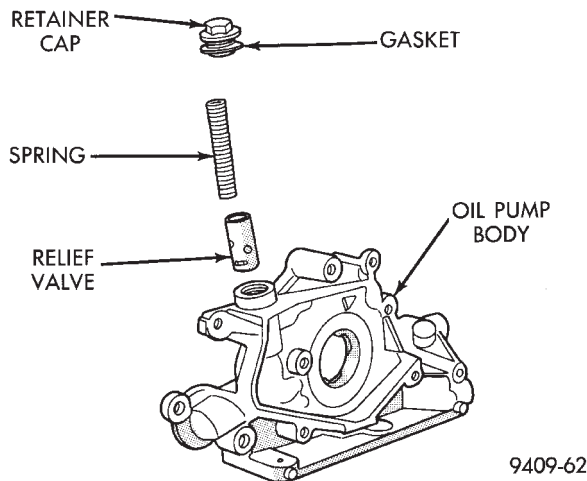

Fig. 101 Oil Pressure Relief Valve
- (1) To remove the relief valve, proceed as follows:
- (2) Remove the threaded plug and gasket from the oil pump (Fig. 101).
CAUTION: Oil pump pressure relief valve must be installed as shown in (Fig. 101) or serious damage may occur.
- (3) Remove spring and relief valve (Fig. 101).